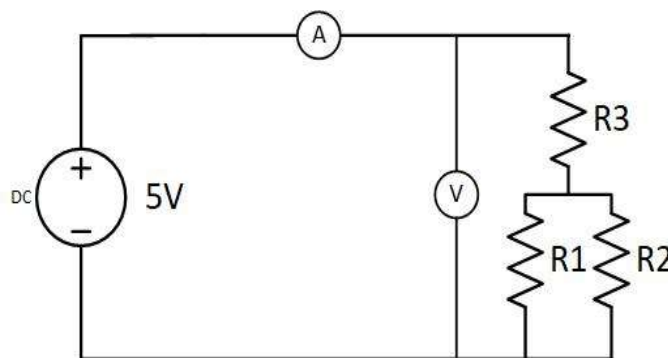

Figure 3: Series-parallel Circuit
- a. Close CWK1a.plecs and open CWK1b.plecs. The circuit here has the structure shown in Figure 3.